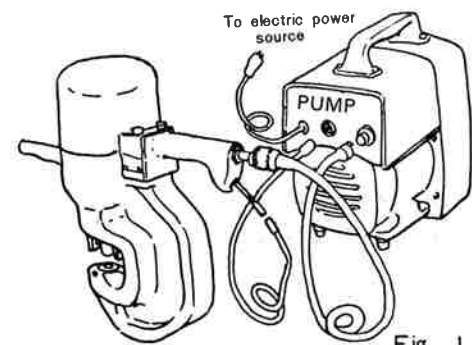

Fig. 1
- (1) Connect Selfer and the Pump via hoses. One-touch connection and disconnection can be performed using Ultra-High-Pressure type Coupler. (See Fig. 1.) (Refer to 5. Coupler for connecting and disconnecting couplers.)
- (2) Connect the switch cord to Selfer and the Pump (See Fig. 1.)
- (3) Connect the plug on the Pump into a receptacle of the power source whose voltage is the same as described on the nameplate. (See Fig. 1.)